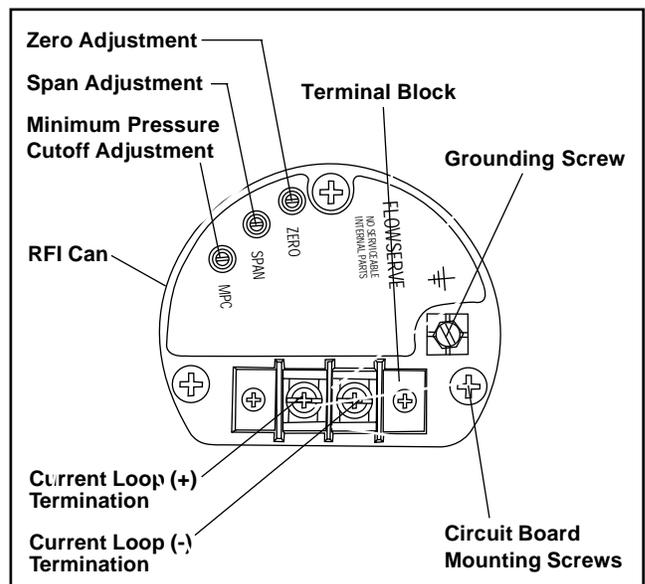

Figure 9: NT 3000 Circuit Board Module
2. Remove I/P module housing cover. (See Figure 9.)
The XL90 positioner with I/P Transducer has a 'Minimum Pressure Cutoff' (MPC) feature, which allows the user to set the positioner. When the input signal falls below a user-adjustable current, the pressure output falls rapidly to approximately 1.7 psi, causing the valve to move to the failure position. This feature is generally used when the service requires a tight shut off or to prevent throttling near the valve seat. To adjust this feature, refer to Figure 9 and perform the following: